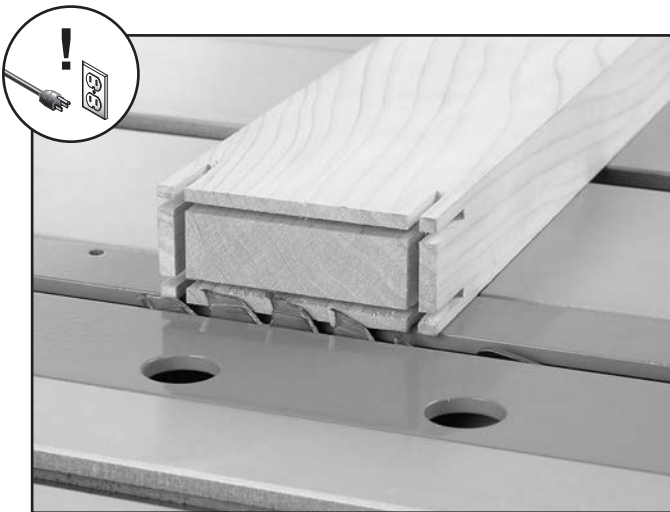

Figure 31. Blade height adjusted for shoulder cut.
3. Adjust blade height to remove waste pieces of shoulders, as shown in **Figure 31**.